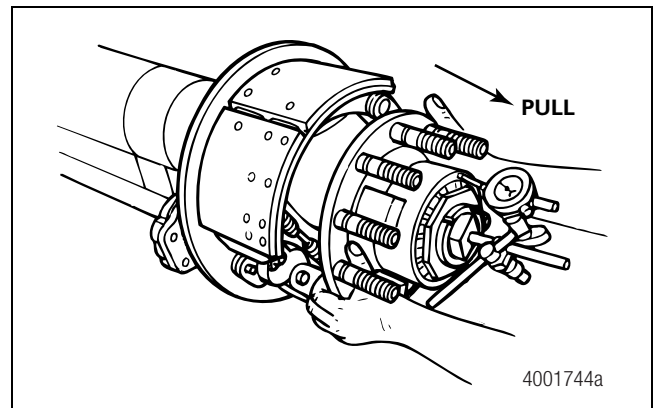

Figure 2.13
4. Pull the hub OUTWARD until the dial indicator does not change. Do not rotate the wheel end. Figure 2.13. The difference in readings between pushing the hub INWARD and pulling it OUTWARD is wheel bearing end play. Use the following instructions based on the end play measurement you obtained.